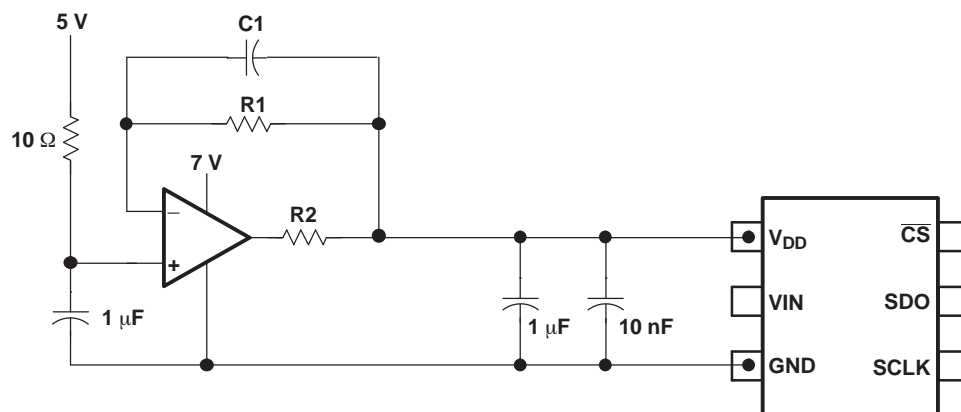

Figure 27. Buffering with the OPA735
- A low-pass filtered version of the system supply followed by a buffer like the zero-drift OPA735 can also be used in cases where the system power supply is noisy. Care should be taken to ensure that the voltage at the V_{DD} input does not exceed 7 V (especially during power up) to avoid damage to the converter. This can be done easily using single supply CMOS amplifiers like the OPA735. Figure 27 shows one possible application circuit.